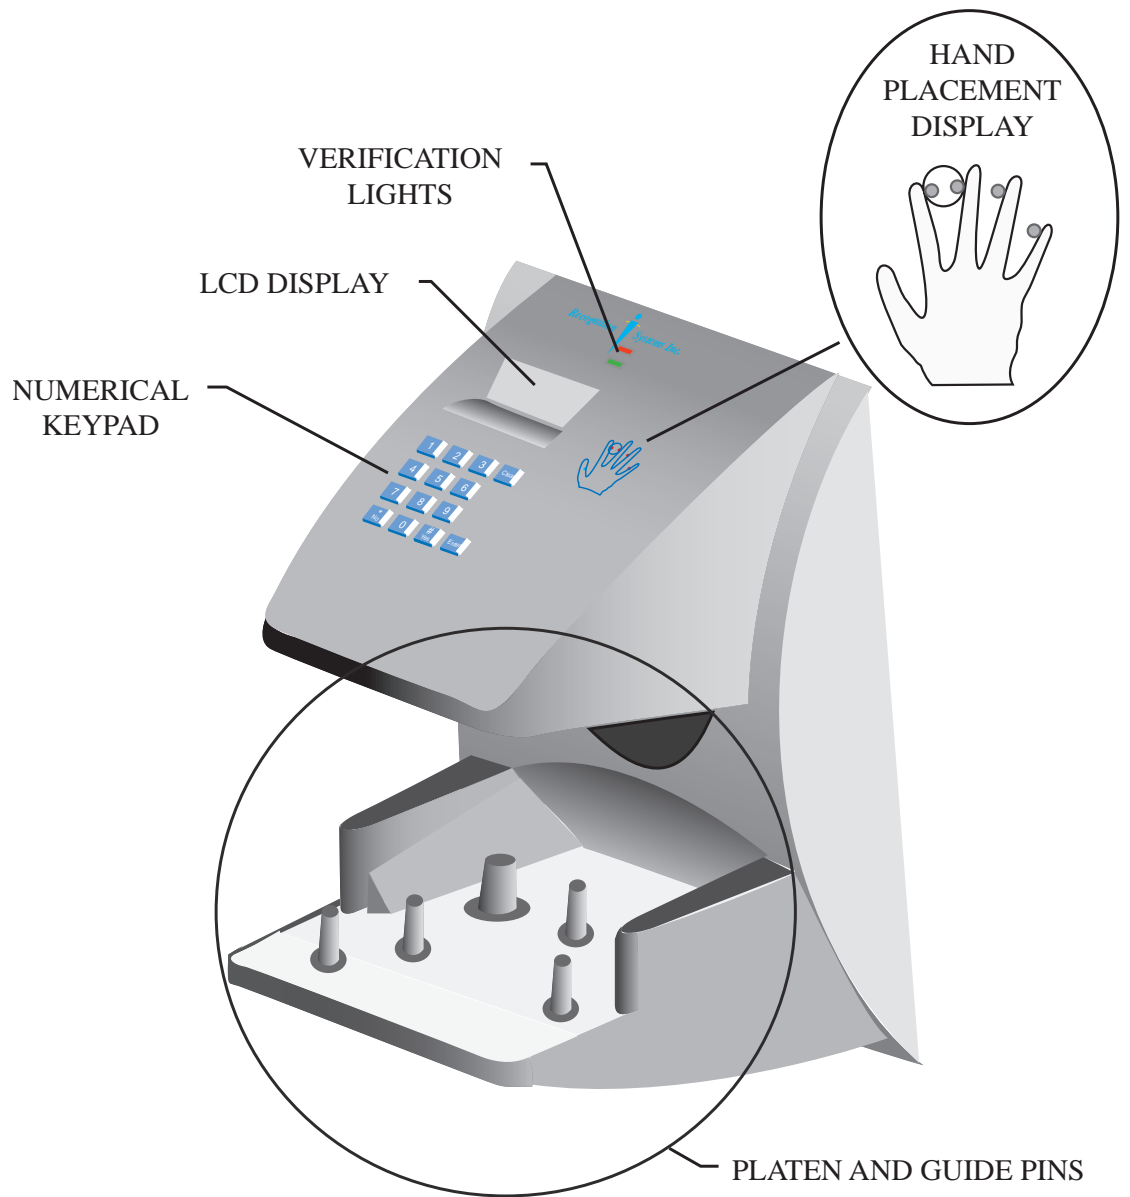

Figure 1-1: The HandPunch 1000
The HandPunch is a time and attendance terminal designed for use with time and attendance software. Refer to Figure 1-1 on page 5 when reviewing the information in this section.
The HandPunch has an integrated keypad for ID entry (see Figure 1-1). The **CLEAR** and **ENTER** keys are used for data entry and programming.
1. The Platen is the flat surface at the base of the HandPunch (see Figure 1-1). This is where users place their hands for enrollment and verification. It has guide pins to assist positioning the fingers during use.